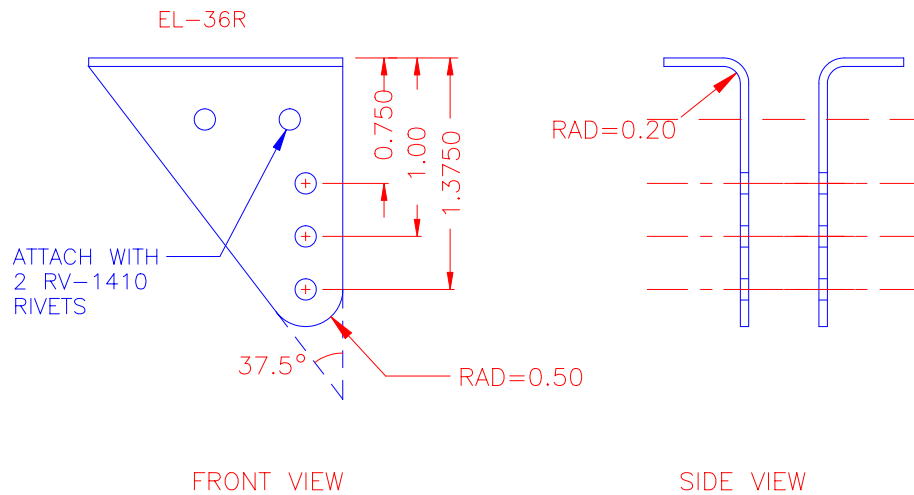
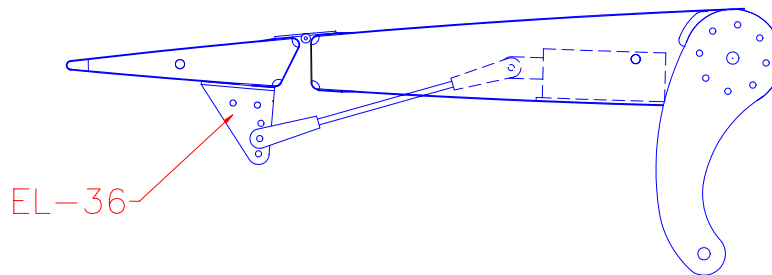

Figure 6.3.2
Figure 6.3.3
- 3) Lay out the trim horns as in Figure 6.3.2. Offer the push rod fork up to the trim horn before drilling the fork location holes to check the edge distance. Also the horn will need
5) Cut a slot in the bottom of the skin large enough to provide full movement of the servo push-pull rod. Figure 6.3.2 and Figure 6.3.3.